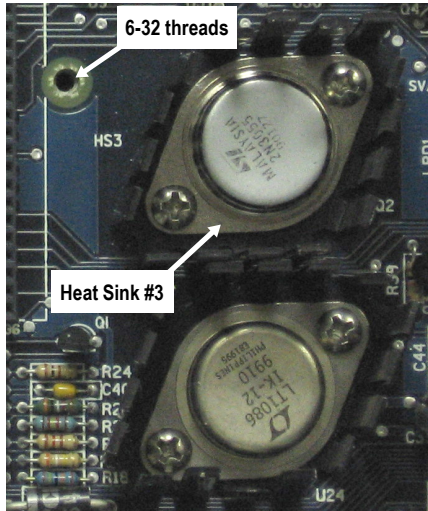

Fig. 5: Location of threads near HS3.
- Remove any screws or fasteners from the 6-32 threads located near HS3 (heat sink #3). See Fig. 5 .